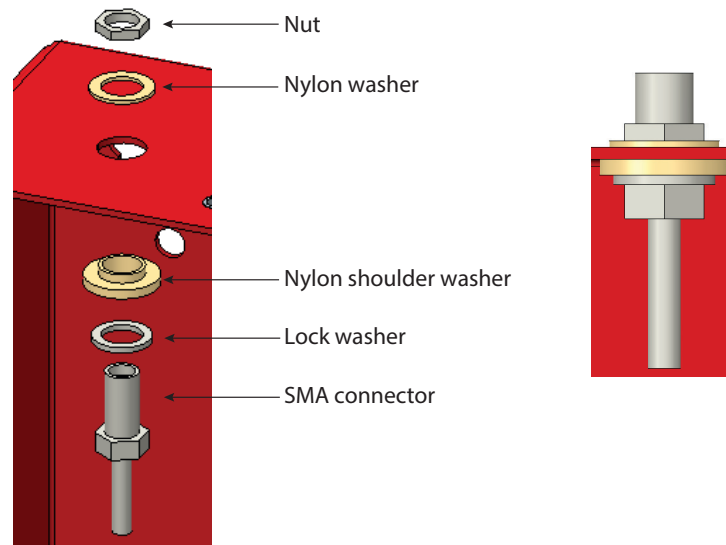

Figure 6. Installing the antenna cable
3. Place the lower, thicker nylon shoulder washer on top of the lock washer, with the collar side facing up, see Figure 6.